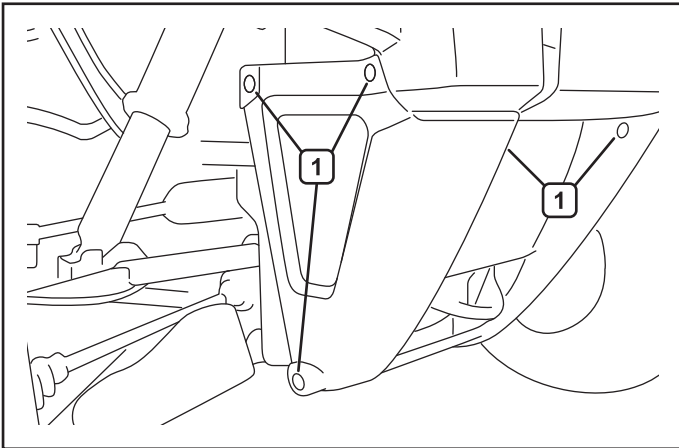

Figure 1.
1. Remove the lower front fascia by removing eight bolts (1). See figure 1.